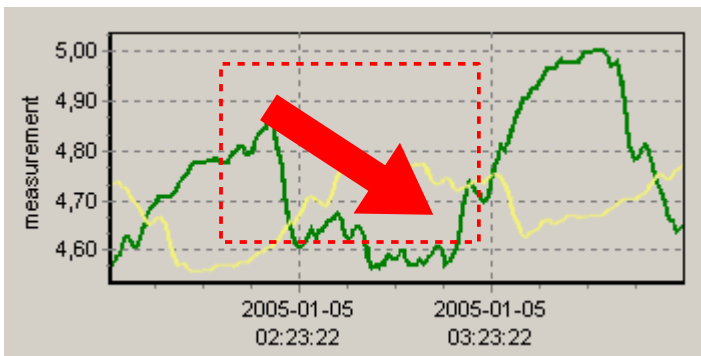

Fig. 3.7. Enlarging graph
- **enlarge graph** - a graph can be enlarged by marking the area of interest with the mouse pointer. In order to do this first left-click on the graph and, while holding down the left mouse button, drag the pointer to the bottom right corner of the graph. The rectangle marked this way will be enlarged (Fig. 3.7).